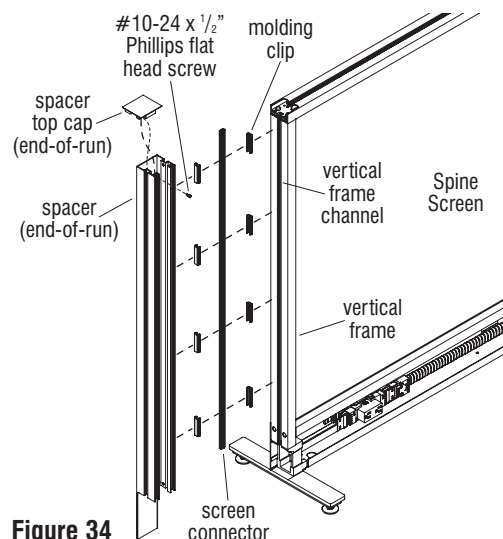
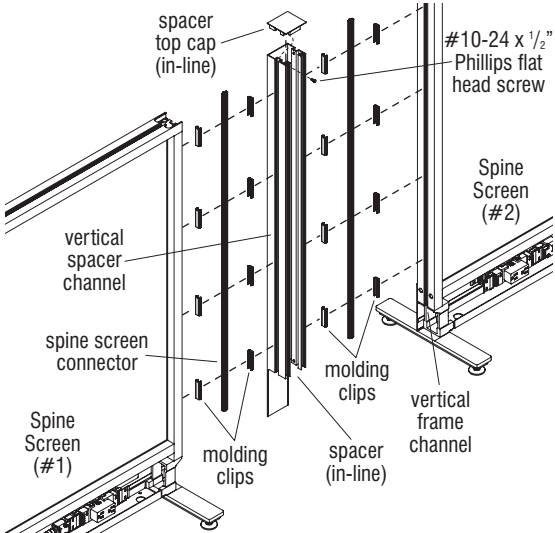

Figure 34
Figure 36
2. The screen connector comes with eight molding clips installed (shown uninstalled, Figure 36), four on each side. Position the screen connector up against the vertical frame channel of the Spine Screen, with clips oriented as shown. Using a firm hand, press at the mounting clips on the screen connector, one at a time to seat them into the vertical frame channel at the end of the Spine Screen (Figure 34 & Detail SS).
3. Position the spacer against the vertical frame, with the side opening as desired, and the top facing upward. If the spacer top is higher than the top of the Spine Screen's horizontal frame, the spacer is too tall at the top and must be squarely cut off from the bottom. Cut required amount off the bottom, then press the side of the spacer with the molding clips in the vertical frame channel on the Spine Screen taking care to align the top of the spacer with the top of the screen's horizontal frame. Press forcefully from inside the spacer at the side, to engage the screen connector into the channel of the spacer (Figure 34 & Detail SS).
onto the spacer. Align the mounting hole on the side of the top cap with the mounting hole in the spacer cover channel and secure with a #10-24 x 1/2" Phillips flat head screw. The base infeed top cap will rest flush with the flat aluminum top cap installed in a later step (Figure 34 & Detail SS).
2. The two required screen connectors come with eight molding clips installed to each (shown uninstalled, Figure 36), four on each side. At each Spine Screen end, as illustrated, position the screen connector up against the vertical frame channel of the Spine Screen, with clips oriented as shown. Using a firm hand, press at the mounting clips on the screen connector, one at a time to seat them into the vertical frame channel at the end of the Spine Screen (Figure 36 & Detail WW).
squarely cut off from the bottom. Cut required amount off the bottom, then press the side of the spacer with the molding clips in the vertical frame channel on the Spine Screen taking care to align the top of the base infeed spacer with the top of the screen's horizontal frame. Press forcefully from inside the spacer, to engage the screen connector/ clips of Spine Screen #1 into the channel of the base infeed spacer. Next, move Spine Screen #2 over to align its installed screen connector/ clips with the appropriate vertical spacer channel. Level and plumb Spine Screen #2 to #1 by twisting the height-adjustable glides clockwise or counter-clockwise until the frame's vertical edges are aligned and tops of screens are at the same height. Press Spine Screen #2 into the vertical spacer channel to engage such that both Spine Screens are snapped into the spacer (Figure 36 & Detail WW).
4. Confirm the spacer top cap is labelled "1" on the underside for in-line. Place the spacer top cap onto the base spacer. Align the mounting hole on the side of the top cap with the mounting hole in the spacer cover channel and secure with a #10-24 x 1/2" Phillips flat head screw. The spacer top cap will rest flush with the flat aluminum top cap installed in a later step (Figure 36 & Detail WW).